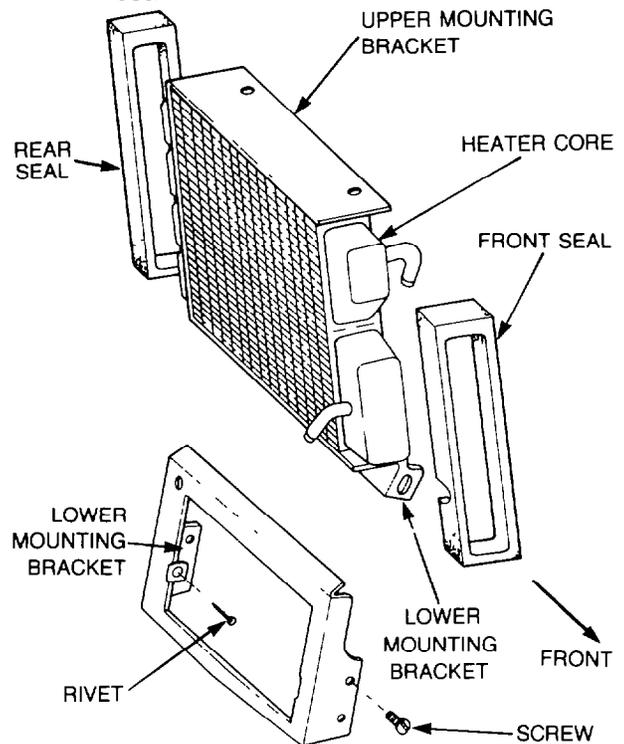

Figure 330 — Heater Core and Mounting
- d. Remove the screw securing the heater core to the lower mounting bracket at the front of the air conditioner housing (see Fig. 330), then using a suitable chisel and hammer, remove the rivet securing the heater core to the rear of the mounting bracket and remove the front seal.